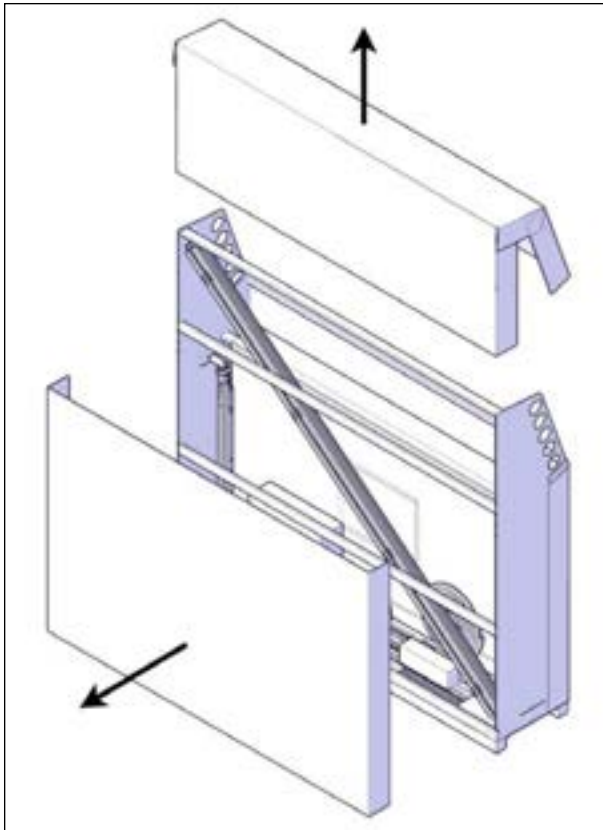

FIGURE 22: CARDBOARD REMOVAL
2. Remove the top and back cardboard see Figure 22.